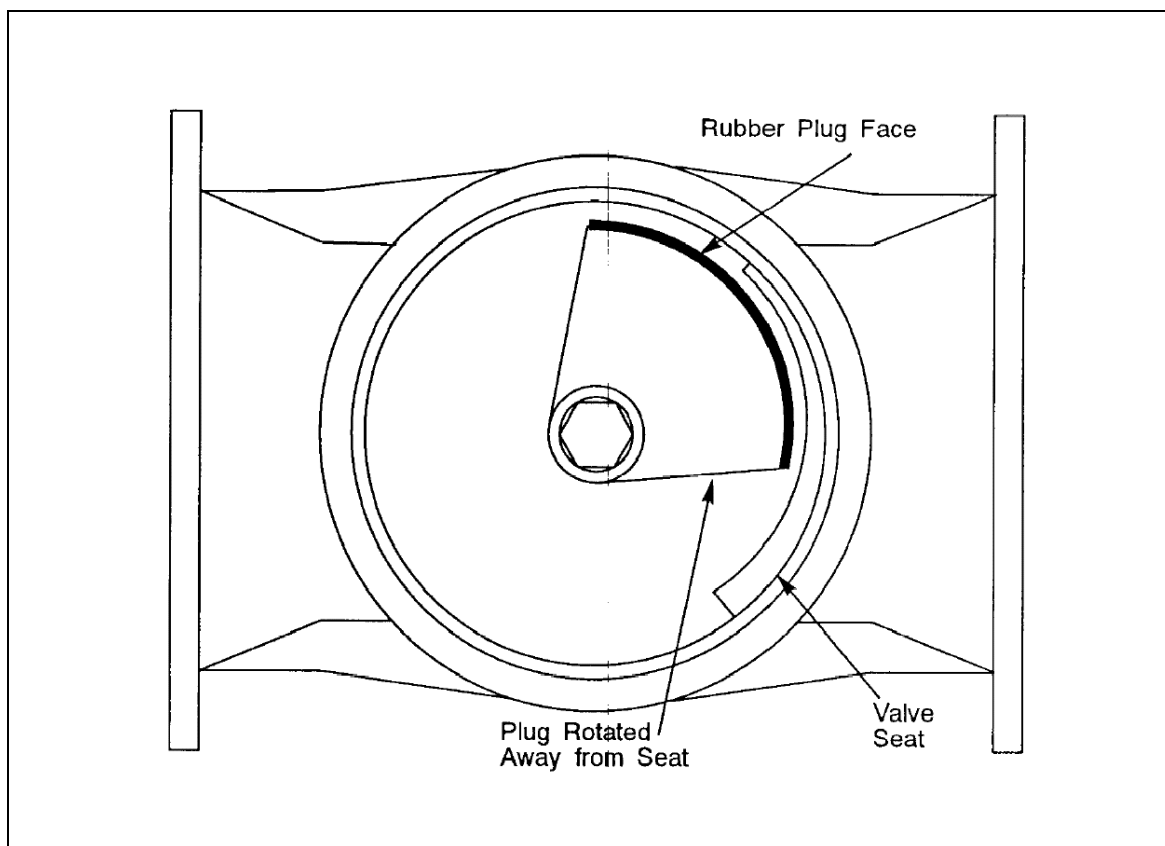

Figure 7 — Location of Plug and Valve Seat While Installing Plug in Valve Body
7. Position the plug in the valve body as shown in Figure 7, then carefully lower the plug and bonnet assembly into the valve body while guiding the lower plug journal into the bottom bearing. Keep the rubber plug face away from the seat to avoid tearing the rubber facing.